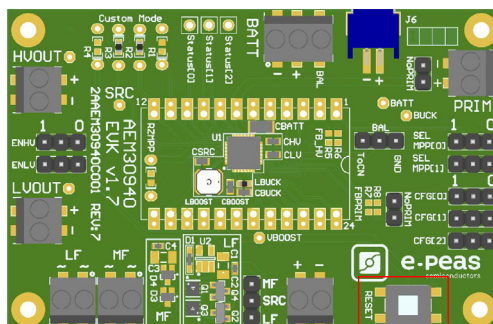

Figure 2: Board Reset
1. Reset the board - see “How to reset the AEM30940 evaluation board” on Figure 2.